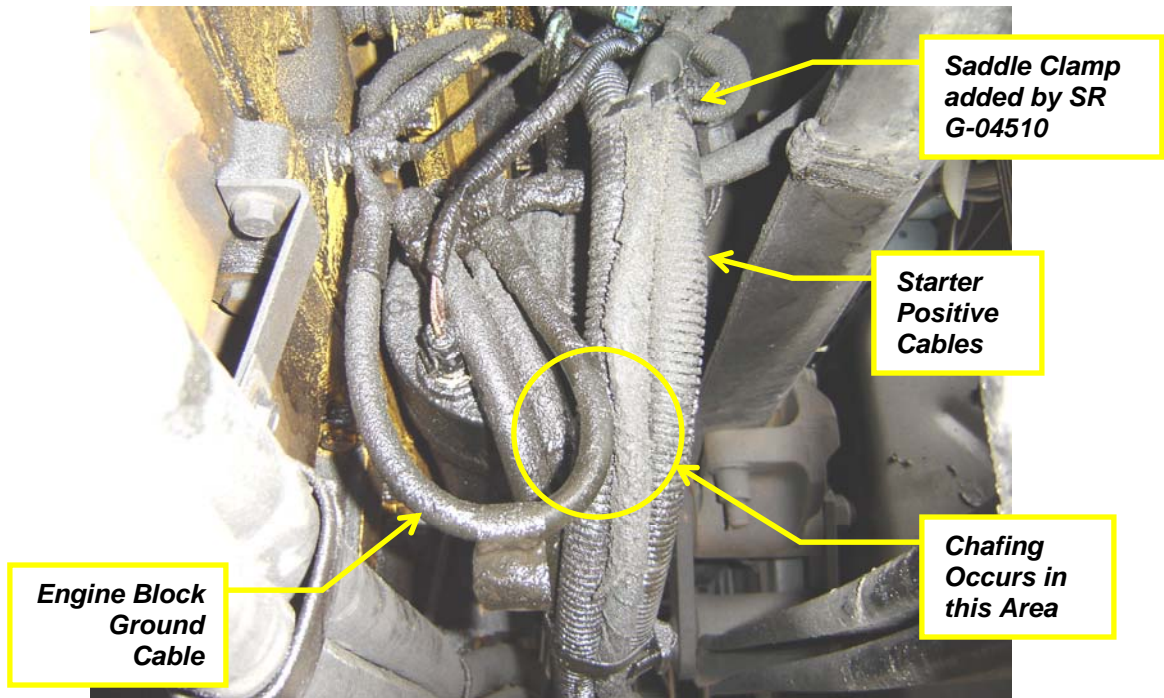

Figure 1 – Chafing Ground Cable
7. If engine cable is chafing or rubbing against the positive starter cables as per Figure 1, skip to step 8, otherwise skip to **FINAL INSPECTION**.